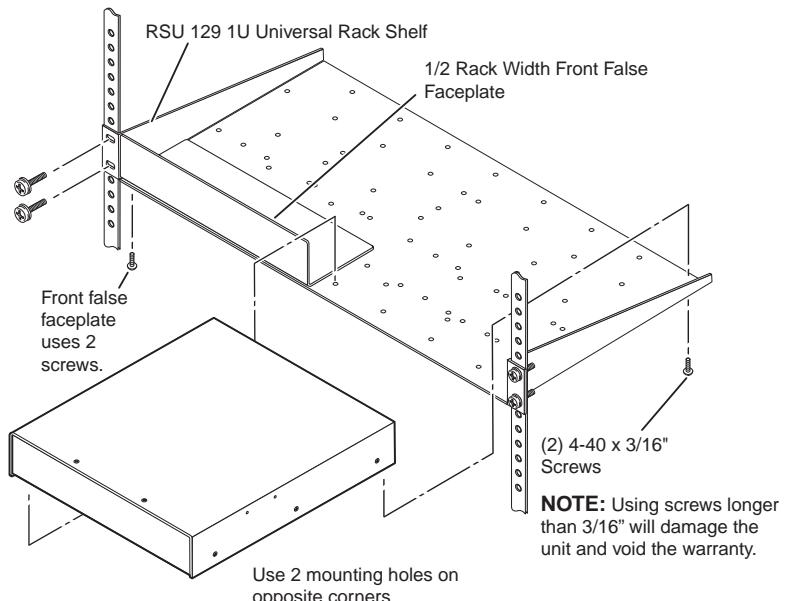

Figure 2-1 — Rack-mounting the switcher
The following Underwriters Laboratories (UL) guidelines pertain to the installation of the switcher into a rack (figure 2-1).
For optional rack mounting, mount the SW VGArgs / Ars Series on an optional RSU 129 1U Universal Rack Shelf (part #**60-190-01**) or RSB 129 1U Basic Rack Shelf (part #**60-604-01**) (figure 2-1). The switcher mounts either to the right or to the left at the front of the rack.
2. Mount the SW VGArgs / Ars Switcher on the rack shelf, using two 4-40 x 3/16-inch screws in opposite (diagonal) corners to secure the switcher to the shelf (figure 2-1).